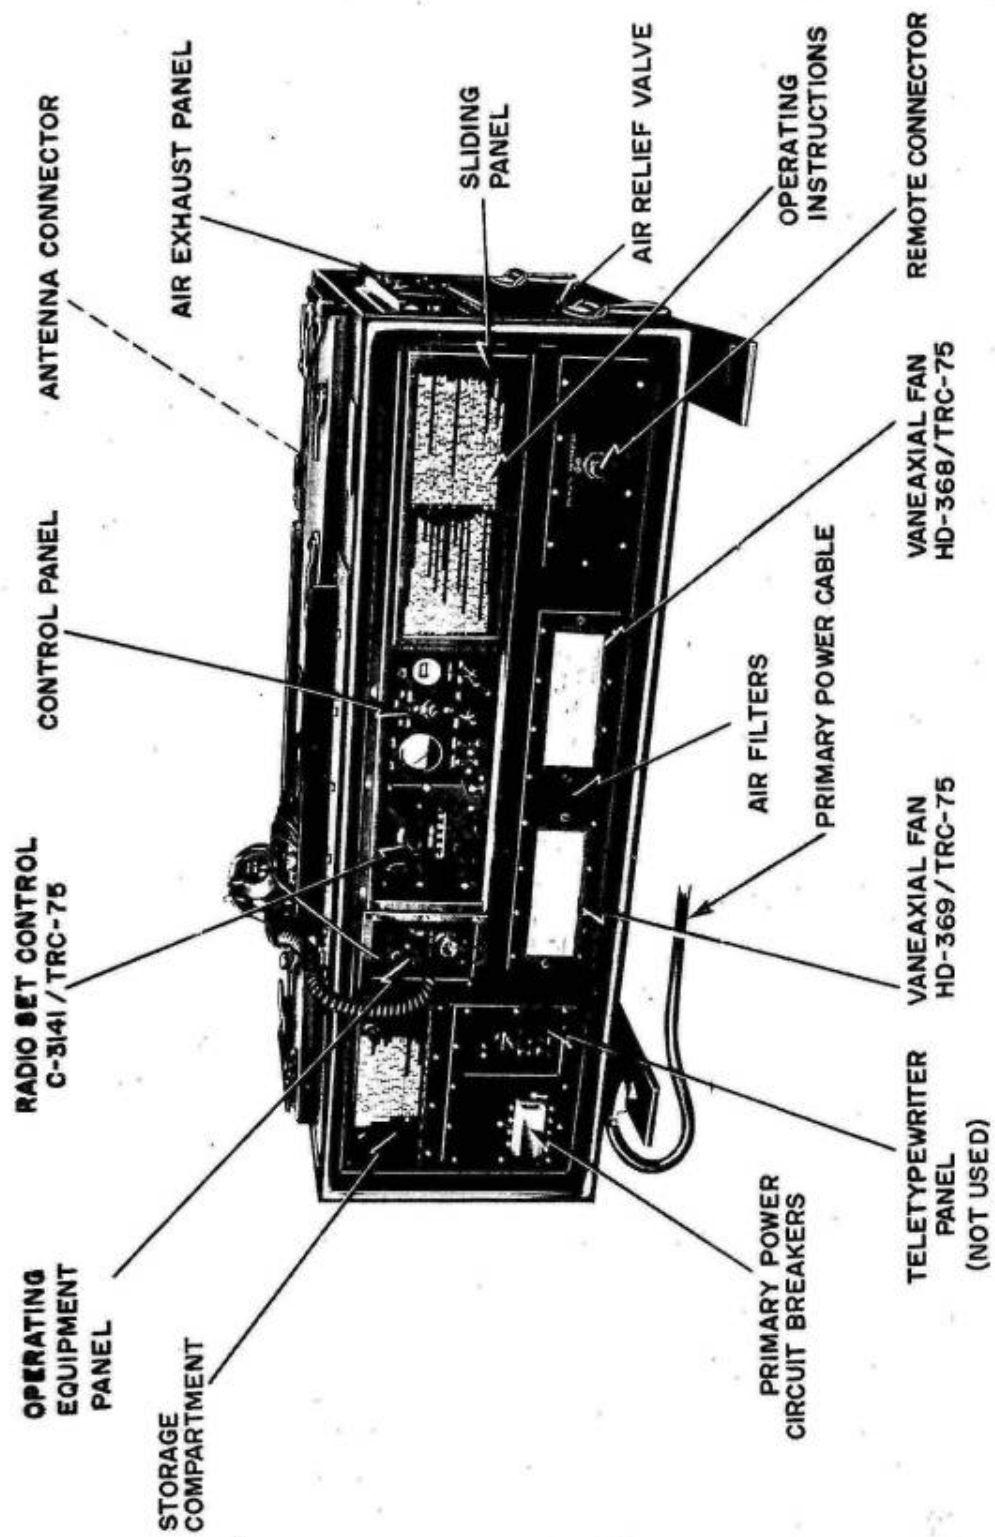

FIG 10 - RADIO SET AN/TRC-75 (DUPLEX)
28. The External RF Conductor and Antenna Post Assembly is shown in Fig 9. The clamp is fitted around the live portion of the antenna base. The antenna post is set in a fixed protective rubber cover. This post fits into the antenna receptacle in the top of Radio Set AN/TRC-75. (See Figs 10 and 12).
38. The Radio Set AN/TRC-75 (Duplex) (Fig 10) is a single sideband HF transceiver capable of transmitting and receiving on any one of 28,000 channels in the frequency band 2.0 Mc/s to 29.999 Mc/s. The control panel (Fig 23) provides direct selection of the 1 kc/s interval channel operating frequencies and direct digital read-out of the selected operating frequency. A new channel may be set up merely by turning the frequency selection control knobs.
44. The front panel of the case (see Fig 10) carries a primary power switch, a hinged door compartment, air-intake louvres, a transparent sliding panel, and two recessed panels. The sliding panel, when closed, covers the control panel (Fig 23) and must be opened to operate the set controls. The recessed panels (Fig 24) are used for the connection of a microphone, headset, and handset or loudspeaker. The microphone, headset and handset are stowed in the compartment behind the hinged door. A CW key is also connected to one of the recessed panels, through the harness. In the operation of this station the teletypewriter connections on the recessed panel are not used, but the unit is connected to the set through the harness and TH-5/TG.
#### Control Panel (Figs 10 and 23)
#### Vaneaxial Fans (Fig 10)